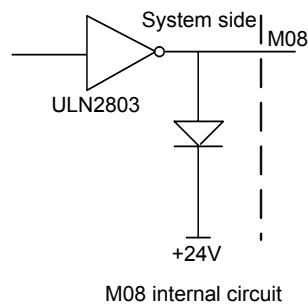

Fig. 4-13-1
- About the internal circuit, refer to the following figure 4-13-1: